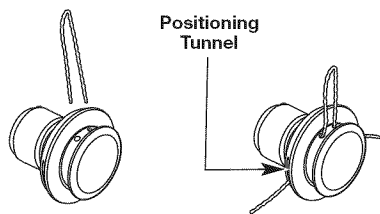

Fig. 14
4. Insert both ends of your line through the proper holes in the side of the cutting head (Fig. 14).